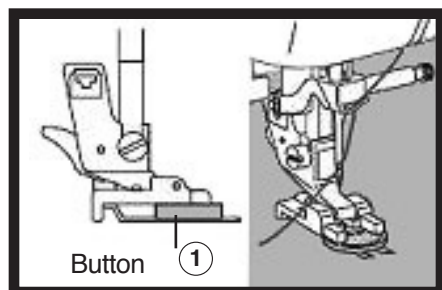

Fig. 2
16. Place the button into the button fitting foot (Figure 2).